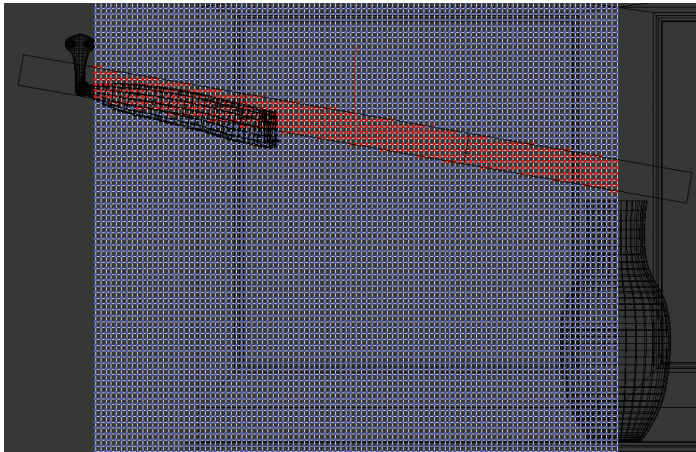

Figure 4: Selected mid verts
- In my case I am going to switch over to the 'Paint selection' tool and then use it to create the selection seen in Figure 4.